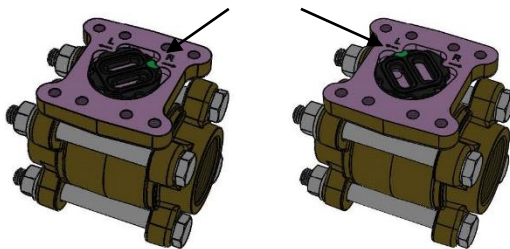
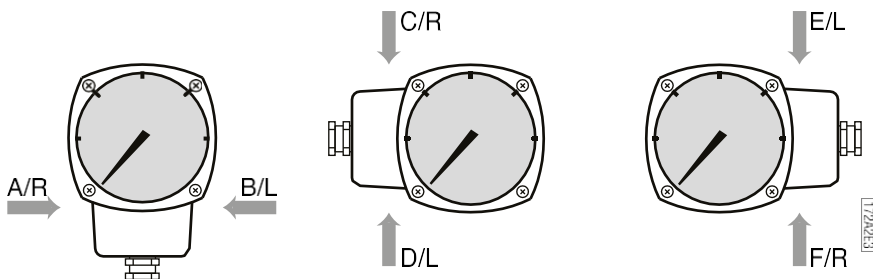

Figure 8
Figure 9
At the time of ordering, you must specify in which direction the Flow Monitor shall be mounted i.e. from which side is the flow entering the Pipe Section and how you would like to read the scale. (Please refer to fig. 8 below for alternatives.) If, for some reason, the Flow Monitor is ordered with the wrong flow direction, it is possible to change this in the field.
To change the direction, loosen the four (4) hexagon screw, which hold the diaphragm housing to the Pipe Section. Remove the diaphragm housing and you will see the flow direction selector, figure 8, (it might have attached itself to the bottom side of the diaphragm housing). Replace the flow direction selector in the configuration for your system (see fig. 9).
As the Eletta Flow Monitors are not limited to a certain mounting position in the piping system, the large visible dial can be mounted in several positions to suit the application. (*please refer to fig. 9*). If you need to change the orientation in the field, please do as follows;